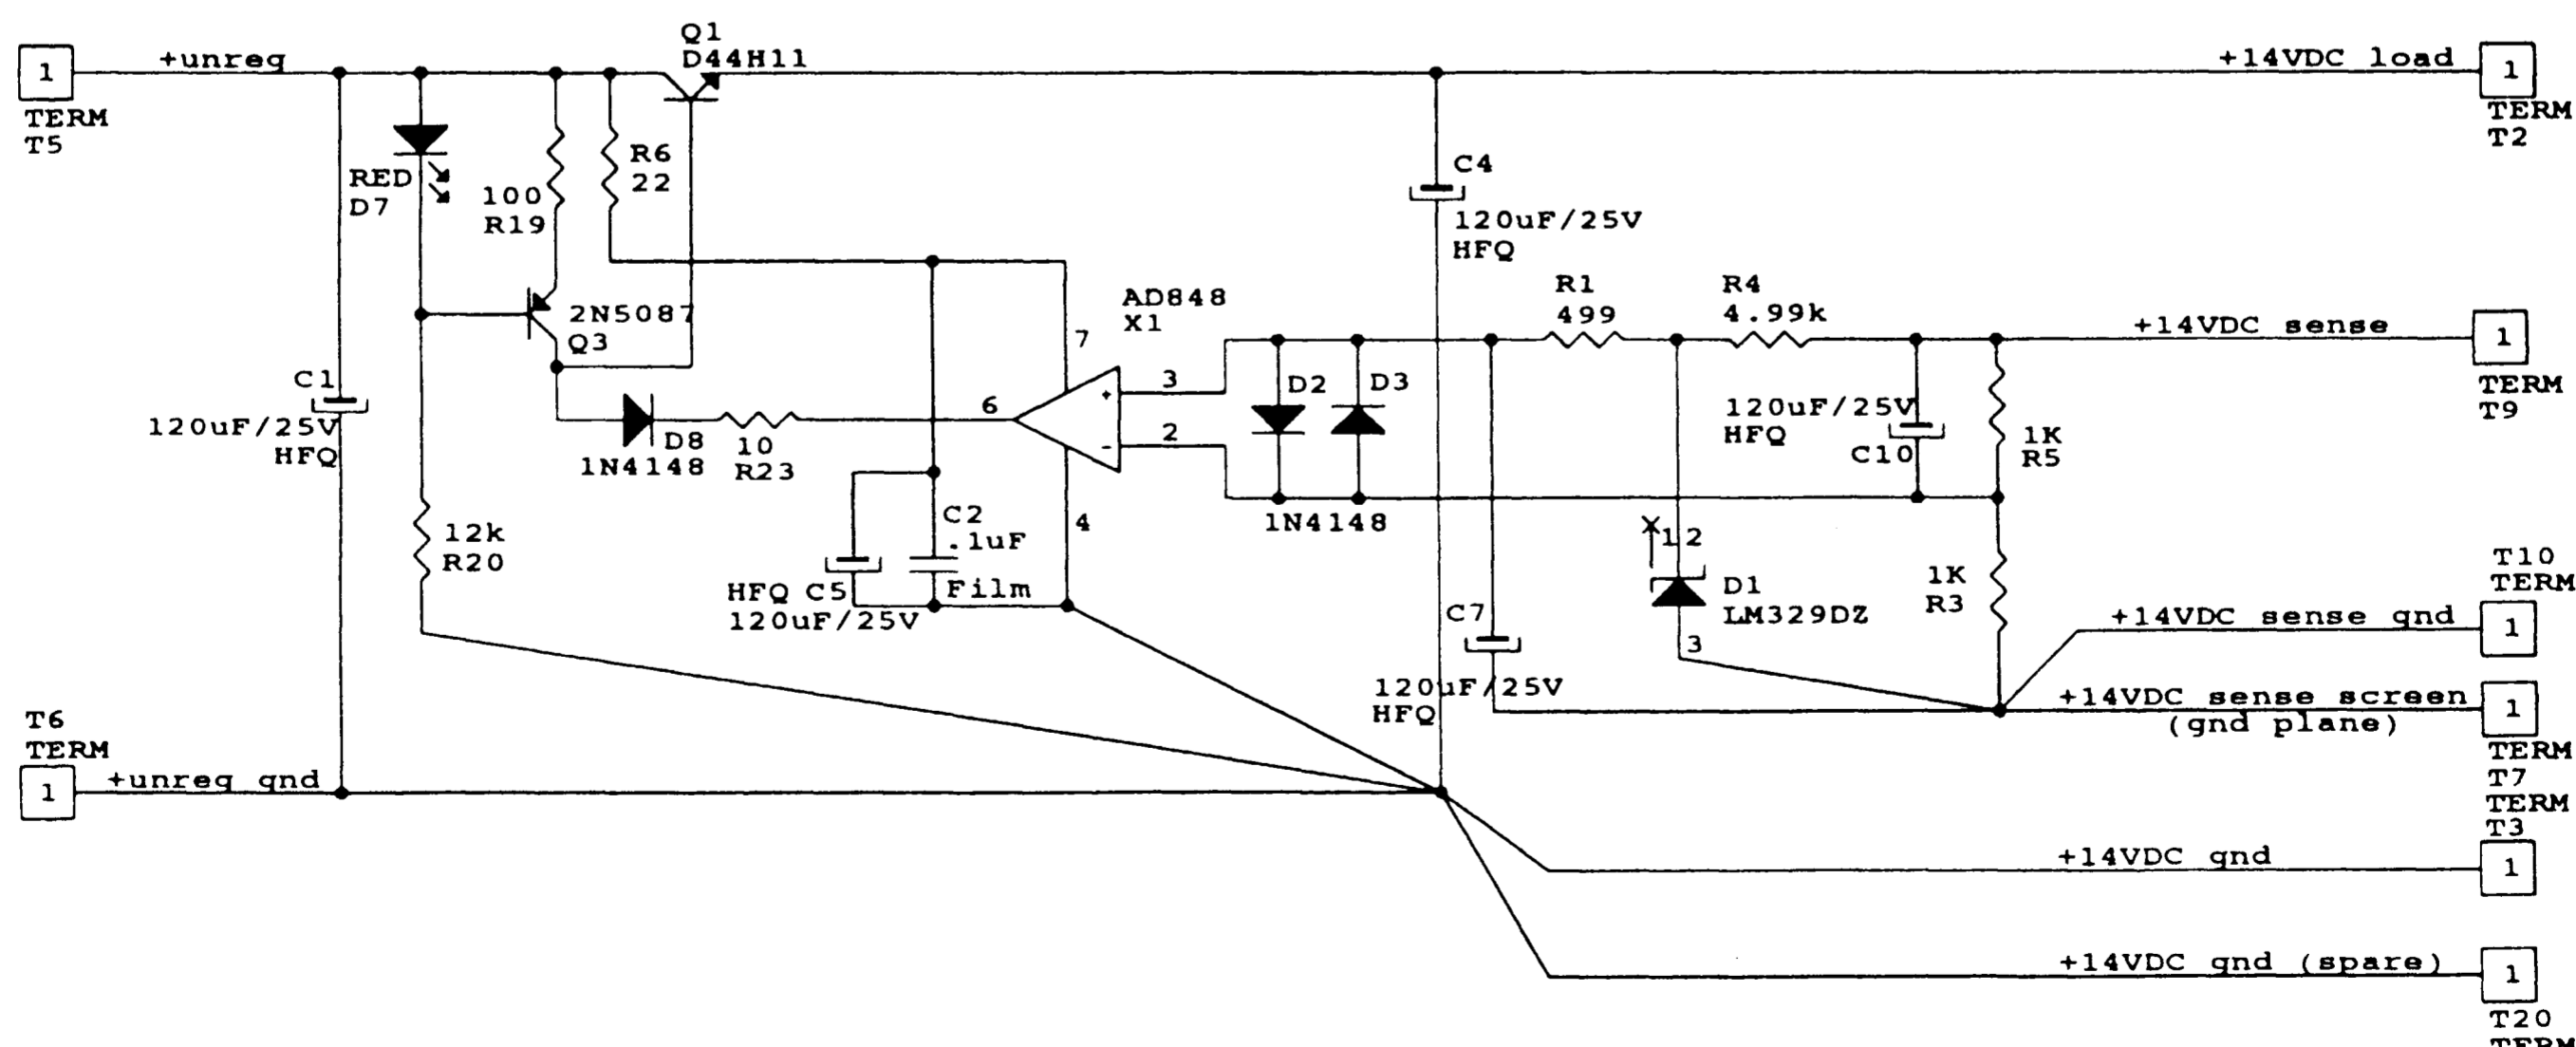
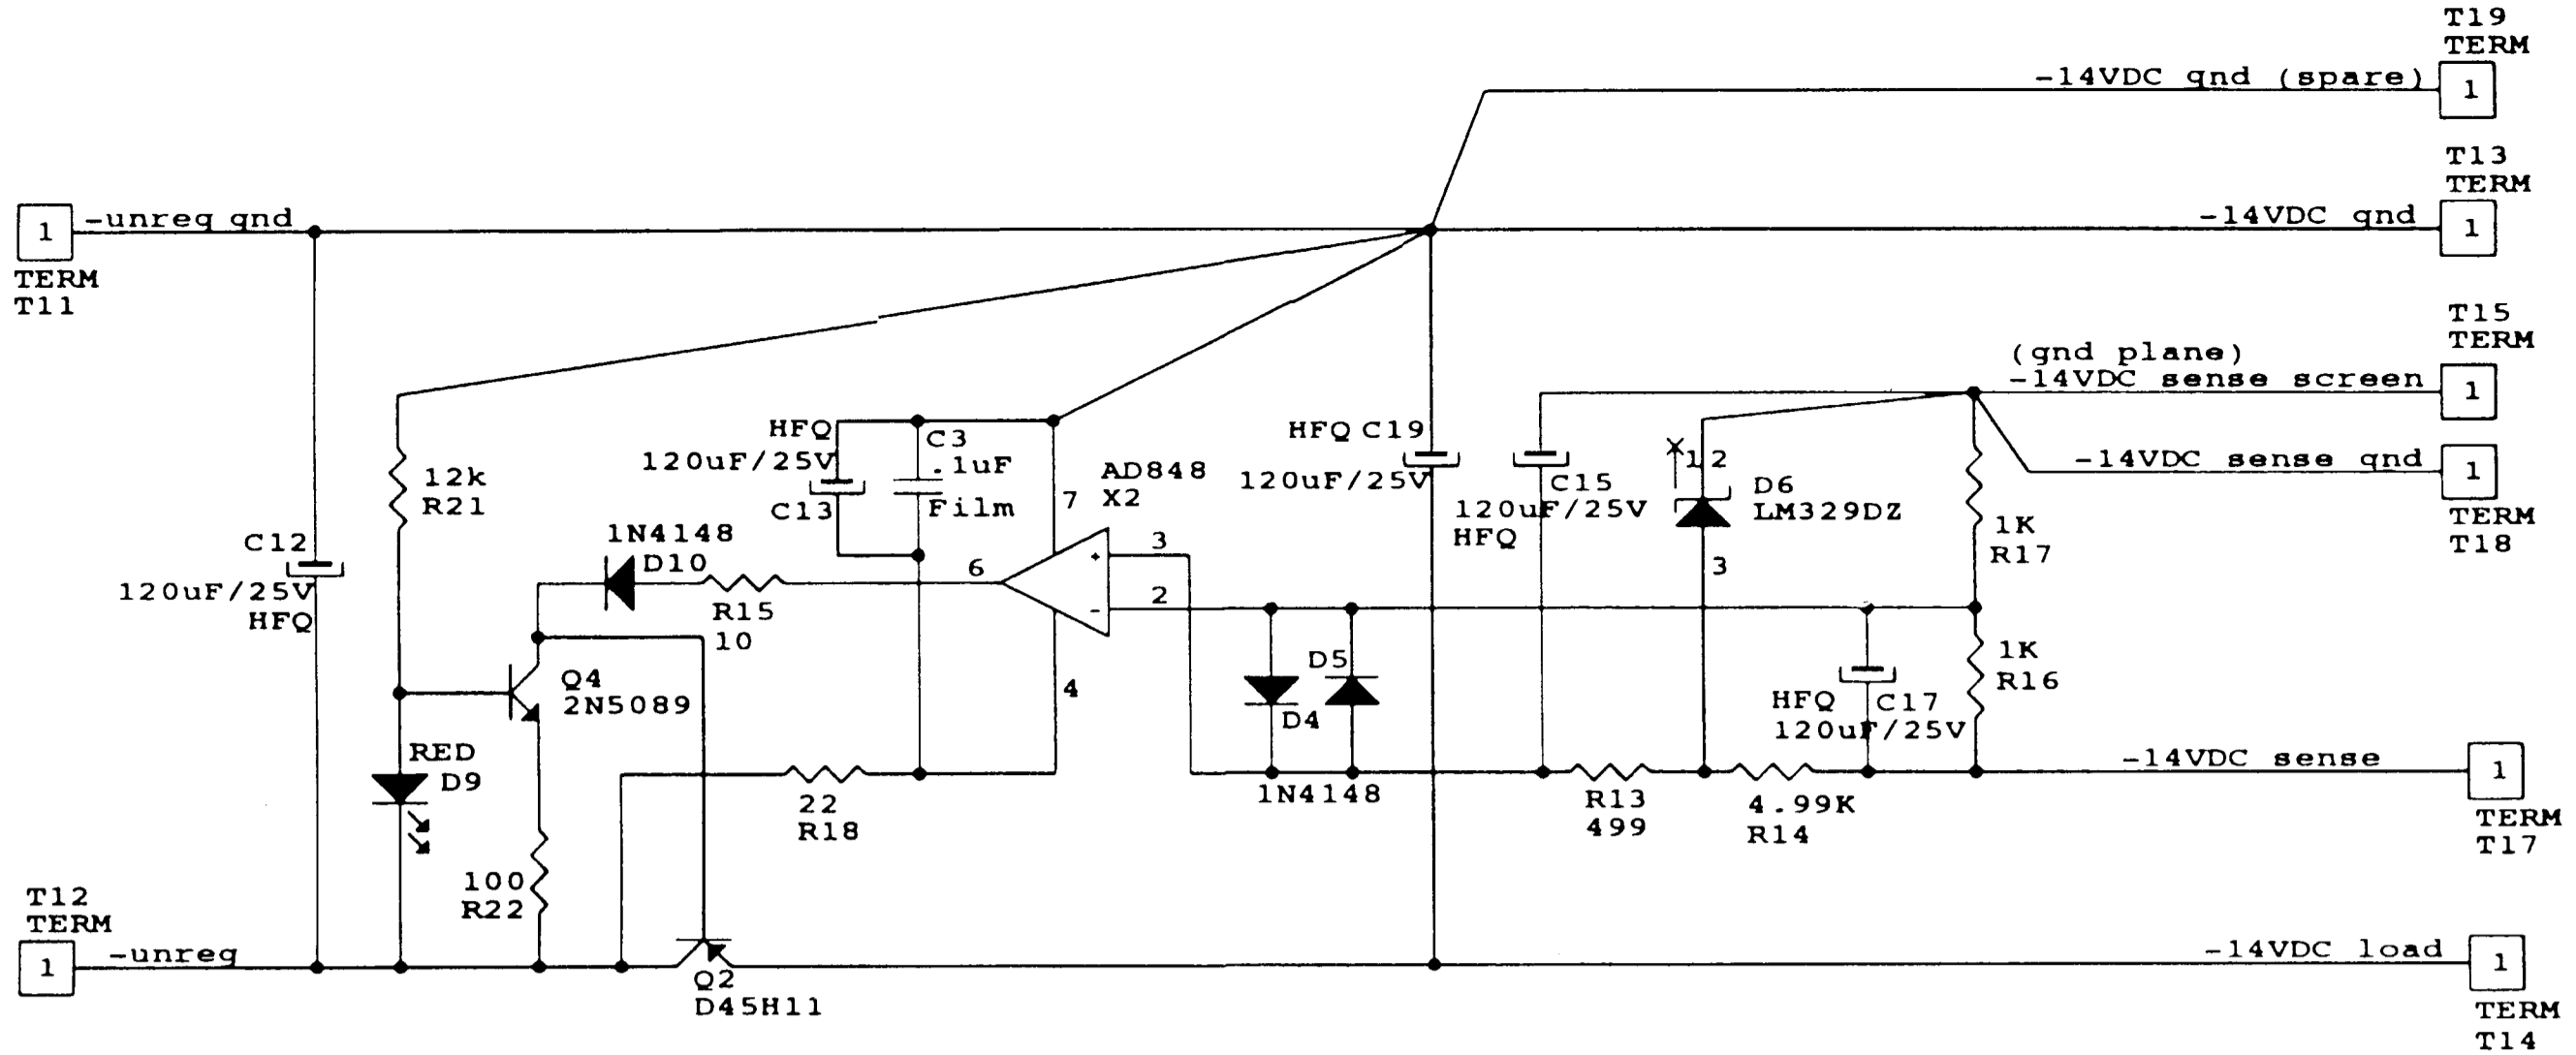

FIGURE 2: Positive regulator schematic diagram.
FIGURE 3: Negative regulator schematic diagram.
Fortunately, you can take care of that, too, with a technique called Remote Sensing (RS). To clarify this and to focus on the physical layout of the boards, look at the familiar circuit diagrams. Figure 2 shows the positive voltage regulator, and Fig. 3 shows the negative voltage regulator. The specific RS provisions in Fig. 2 are immediately apparent.
So, now we feed the regulator feedback circuitry (R5, R3 in *Fig. 2*) with the actual output voltage at the load. Furthermore, the reference voltage is developed from the same points as well. The currents through the sense wires are very small and constant, and thus do not affect the performance. You have now all but eliminated the influence of the connecting wiring on both the feedback and the reference.
The supply current for the op amp and the current source around Q3, however, vary with frequency and load current. After all, these currents vary with the pass transistor’s base current demand, and are thus clearly load- and frequency-dependent. Therefore, these circuit points are not returned to the clean sense points, but to a star ground as a “next best” alternative. Parts 1 and 2 already addressed the rest of the circuitry, so I won’t go into further details. The negative version (*Fig. 3*) is, of course, just the twin of *Fig. 2*.
The proposed regulators use an extra RC decoupling for the op amp supply. (In the positive regulator, Fig. 2, these are R6 and C5, C2.) Such a network, often seen in low-level circuitry, has been the source of some controversy. I have done some research into the effects and offer my findings here, for whatever it's worth.